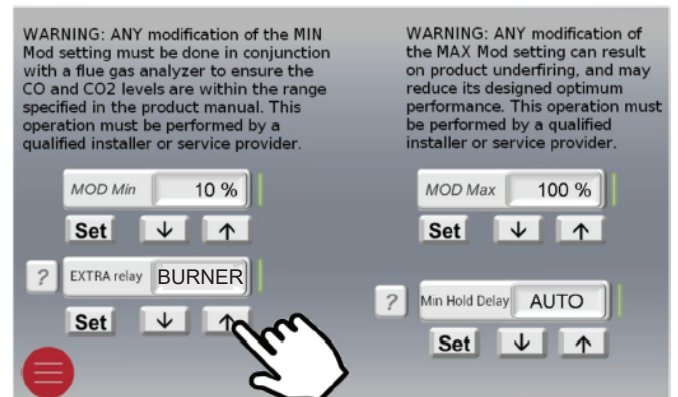

Figure 58. Boiler 1 "Extra Relay"
5. A new page will appear. On 'EXTRA relay' setting, use the arrows to select 'Blower' per **Figure 58**.